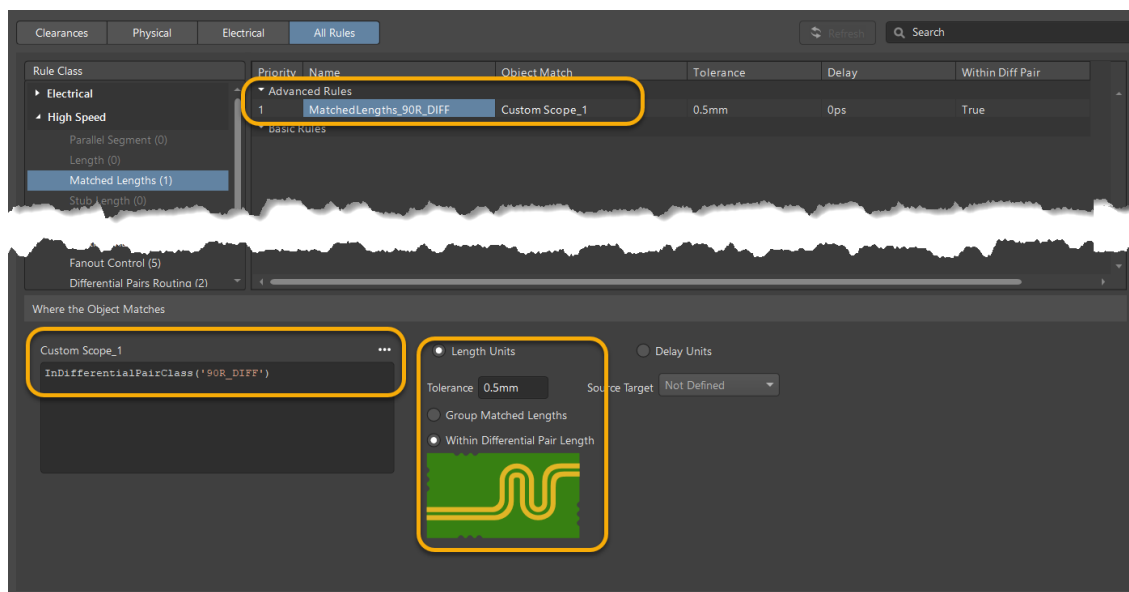

Figure 24. Creating a Matched Length Rule – Option2
- d) The cell *Object Match* is updated to *Custom Scope\_1*, Figure 24. Altium Designer will show the query in the lower left area of the *Constraints Manager*.